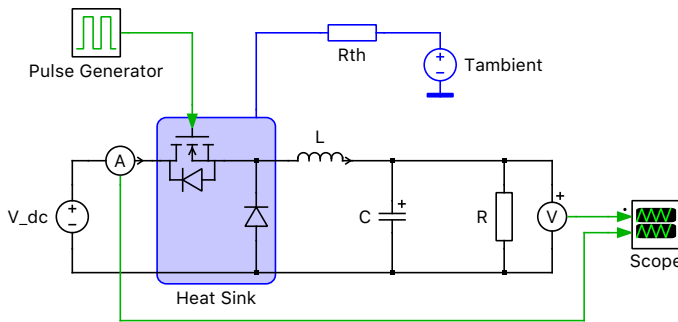

Figure 1: Combined electrical-thermal simulation of a buck converter
The circuit you will use for this exercise is shown in Fig 1. It is a buck converter with a SiC MOSFET switch that operates at 20 kHz. The electrical parameters are given in Table 1.
Your Task: Open the PLECS model `thermal_domain_start.plecs` and add a Heat Sink, Thermal Resistor and Constant Temperature (Grounded) block to the circuit, as shown in Fig. 1. These components can be found in the Thermal section of the PLECS component library. The parameters for these components are as follows:
- 3 Use the **Edit...** option to open the Thermal Editor and look at the switching and conduction loss definitions. Note that there is component switching loss data already included using an **Energy scale** of μJ , as well as conduction loss data for 150°C . You will add datapoints for -55°C and 25°C , using **Figures 1** and **2** in the device datasheet, respectively. For the -55°C data, you will manually enter voltage values for the existing current columns, and then you will use the Curve Import Wizard tool to graphically acquire datapoints for the 25°C table.
- 5 Using **Figure 1** of the C3M0120090D device's datasheet, estimate voltage values for the positive current columns headers already chosen (i.e., 5A , 15A , 25A , 35A , and 45A). It is recommended by the manufacturer to refer to the “ $V_{\text{GS}} = 15$ ” curve unless you are not driving the gate with full voltage (note that the data at 150°C uses the “ $V_{\text{GS}} = 15$ ” curve).